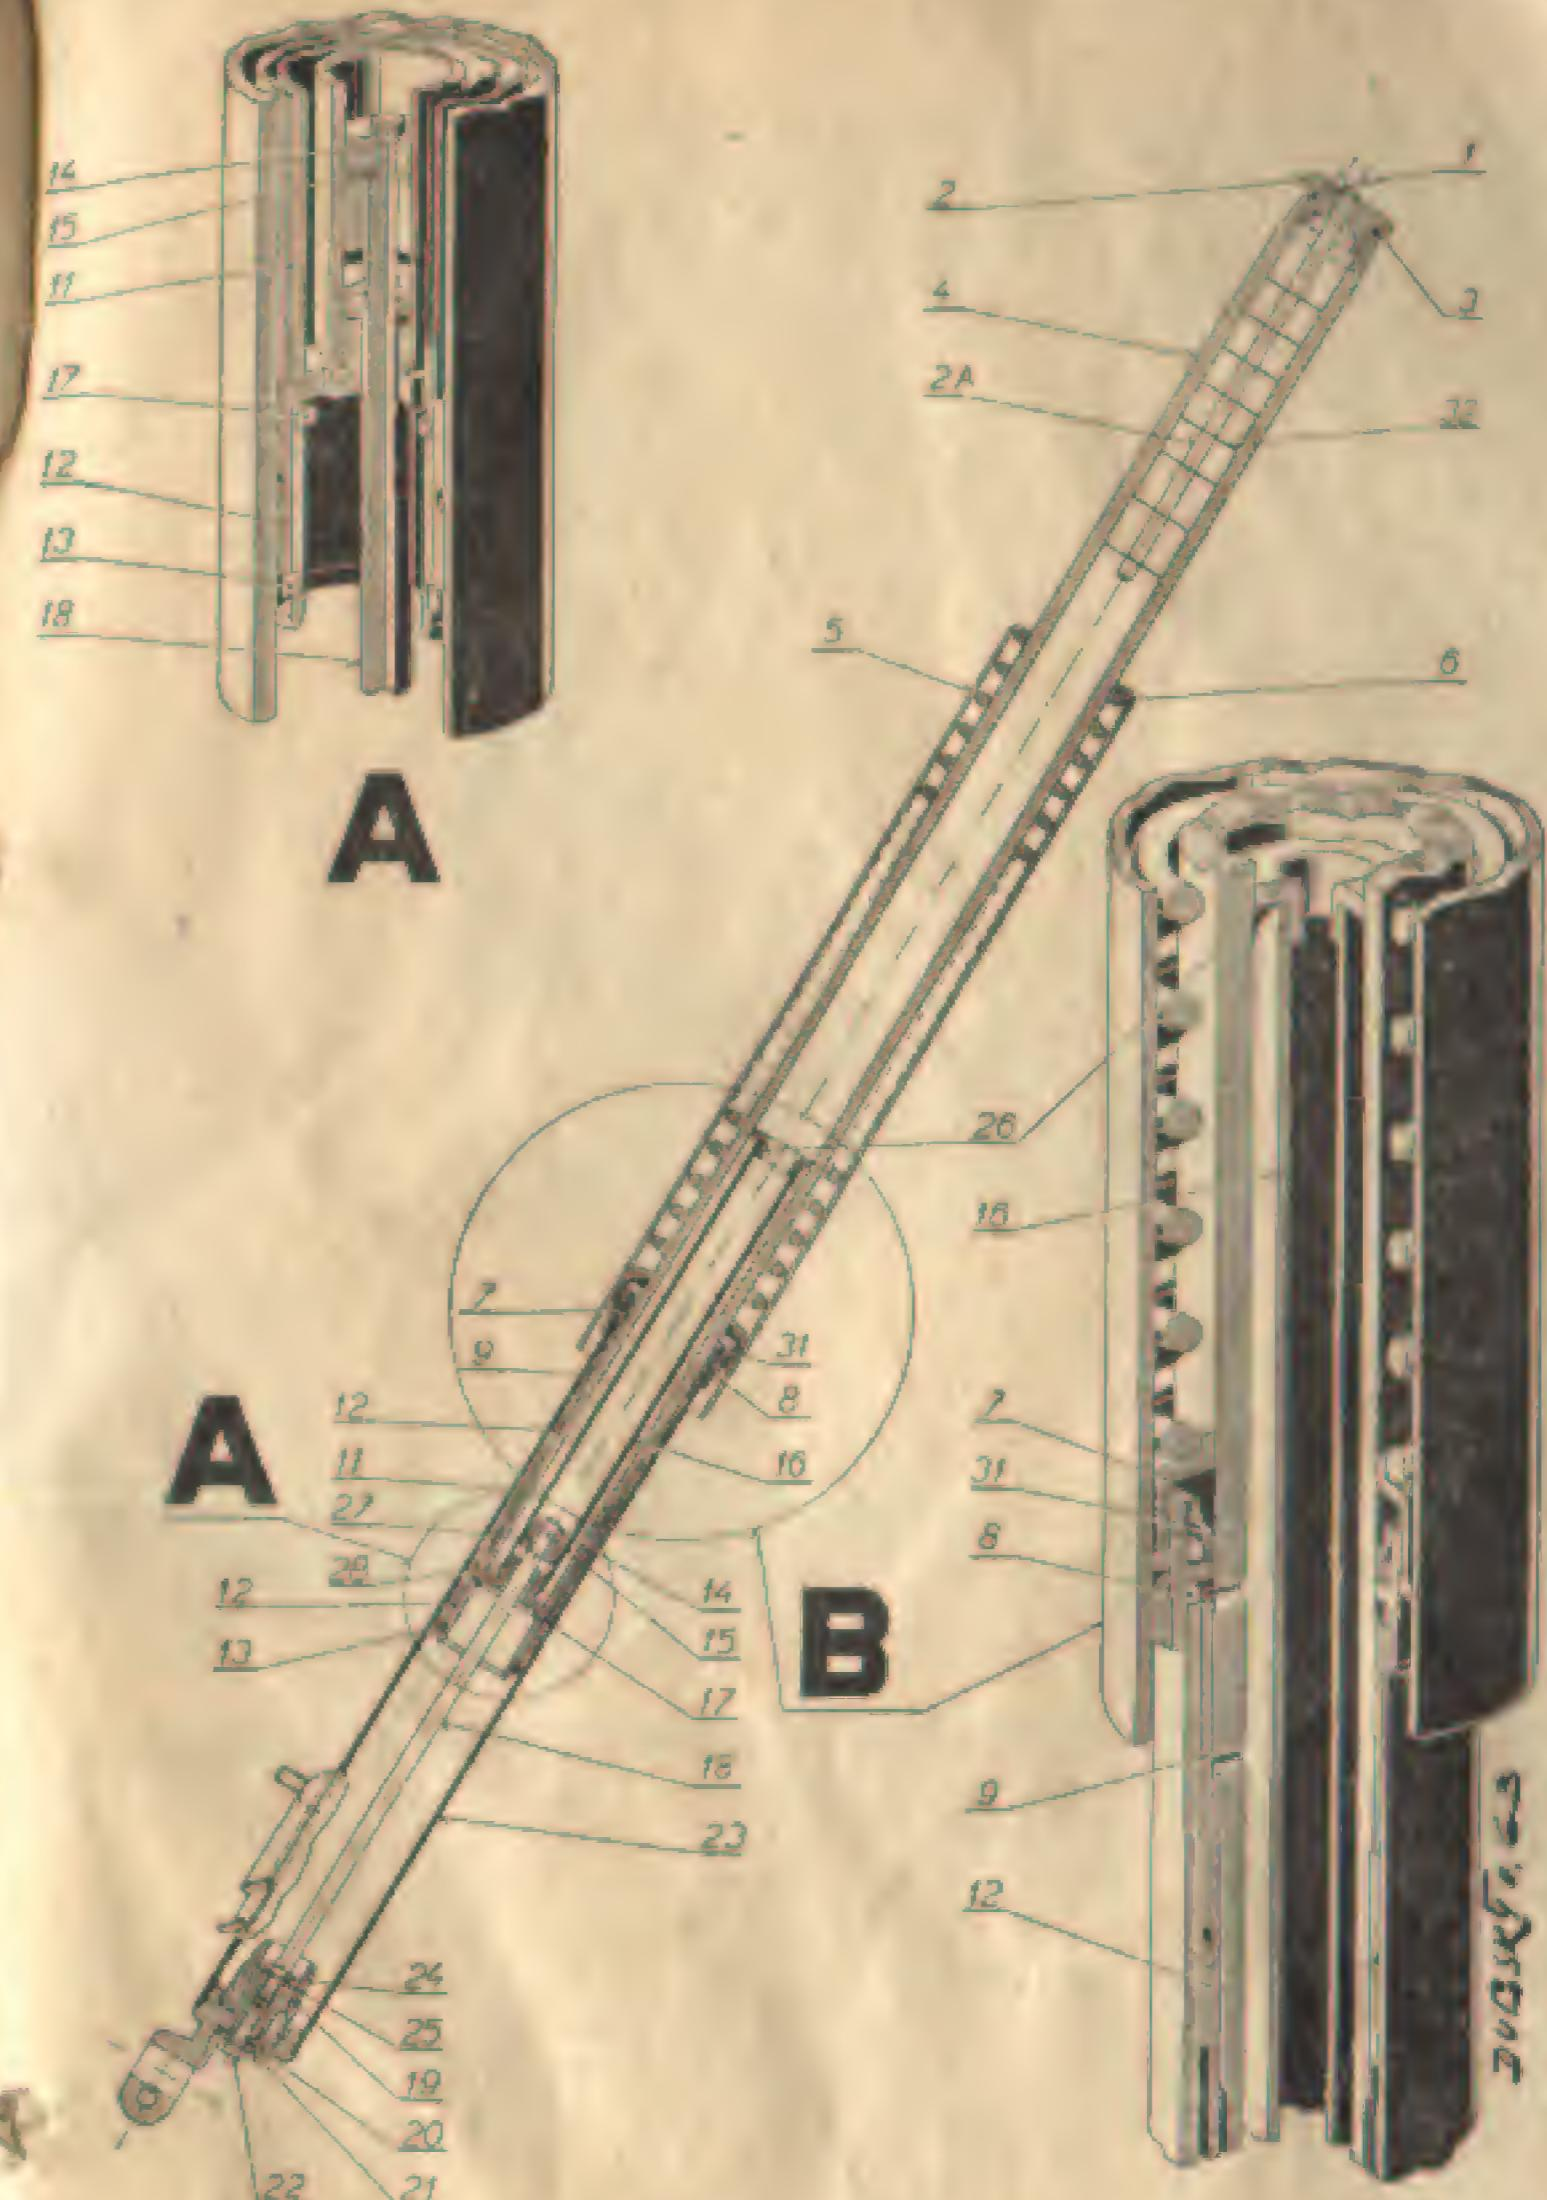

Fig. 15 - Front fork - sectional view
The telescopic front fork dampers (Fig. 15): After the first 600 to 900 miles (1,000—1,500 km) change the damper oil from both front fork legs. Change in the following manner: Remove the front wheel, unscrew the screw (22) on the bottom portion of the fork by about 7 mm, press it into the slider by means of the screw (22), rotate the end piece (19) through approx 90° and let the oil drain out. Now close the slider in the following manner: using the screw (22) turn the end piece (19) into its original position, i. e. until the end piece (19) pin engages in the hole. Tighten the screw (22).